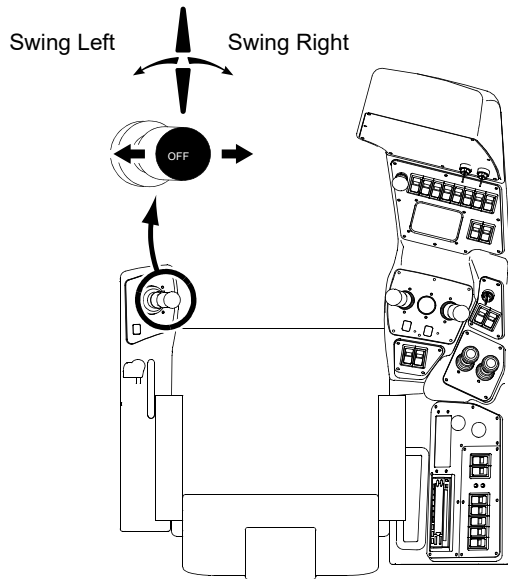

FIGURE 3-20
See Figure 3-20 for swing operation.
3. See Figure 3-20. Push swing handle to LEFT from off to SWING LEFT or pull handle to RIGHT from off to SWING RIGHT.